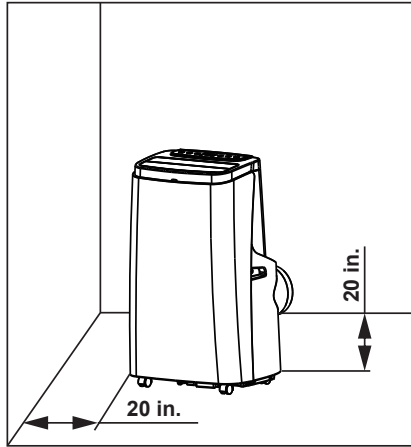

Figure 4
3. Move the appliance with installed heat pipe and fittings in front of the window. The distance between the body and walls or other objects shall be least .20 inches (as shown in Figure 4).